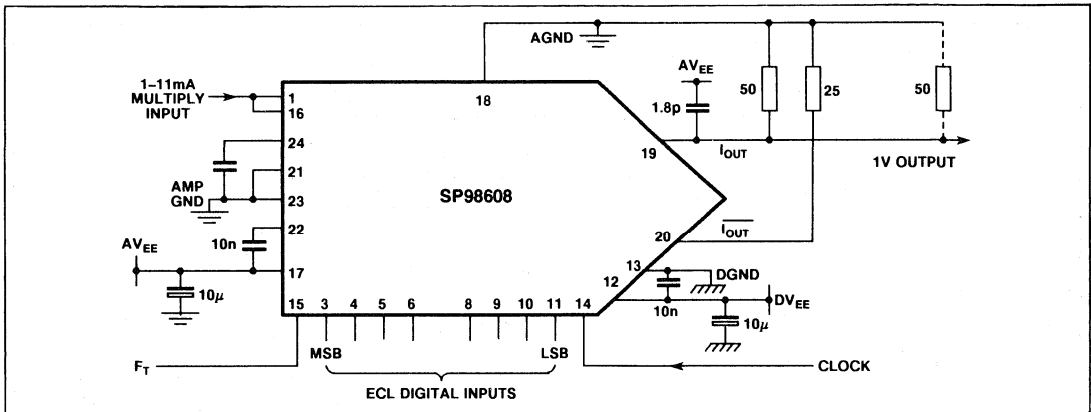

Fig.4 Current multiplying mode
- The output positive compliance can be increased beyond +1.0V at the expense of linearity. See Fig.4 for circuit configuration.
**Current Multiplying.** A circuit for using the DAC in current multiplying mode is shown in Fig.4. The transfer function is approximately: IOUT (Full Scale) = 4 X IIN. In this mode the current setting loop amplifier is not used.